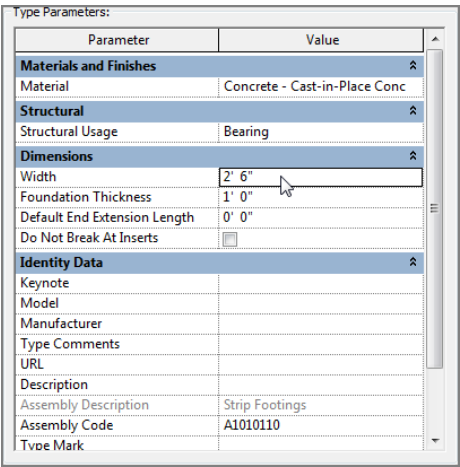

FIGURE 8.59: Changing the width
- 5. Change the Width setting to 2'-6" (750mm), as shown in Figure 8.59.